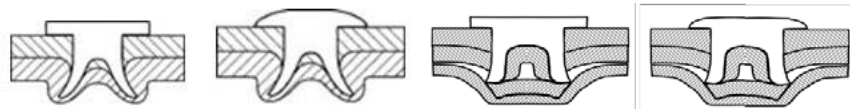
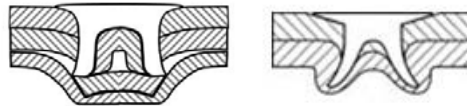

Figure 1: Raised Head 2T and 3T
Figure 2: Flush Head 2T and 3T
3.1.1 Correct Part Usage. Correct part usage includes the correct type (raised head - Figure 1, flush head – Figure 2), the correct head diameter and the correct shank diameter. An incorrect type (flush head vs. raised